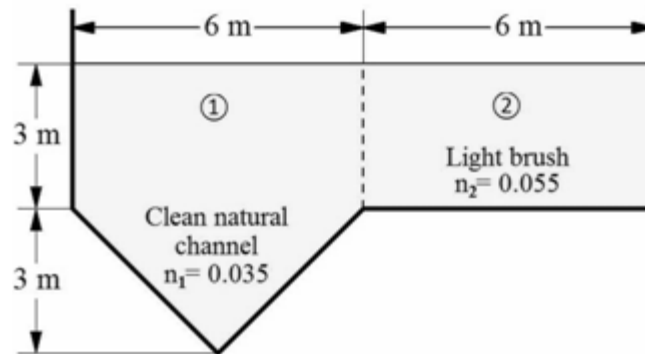

Figure 7
07. Water flows in a channel whose bottom slope is 0.003 and whose cross section is shown in the figure 7. The dimensions and the Manning coefficients for the surfaces of different subsections are also given on the figure.